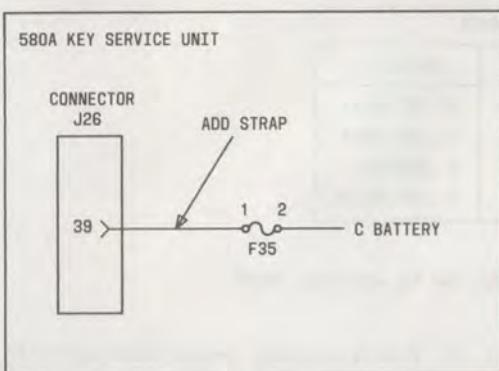

Fig. 46—♦Modification of 580A KSU for DND♦
4.104 ♦Both automatic and manual DND require that the 456-type KTU (voice and tone alerting) be removed from connector J26 of the system KSU and replaced with a 468B KTU. If the KSU is a 580A, add a backplane wire from C battery (fuse 35) to pin 39 of J26 (Fig. 46); this modification is not required in a 580B KSU.♦